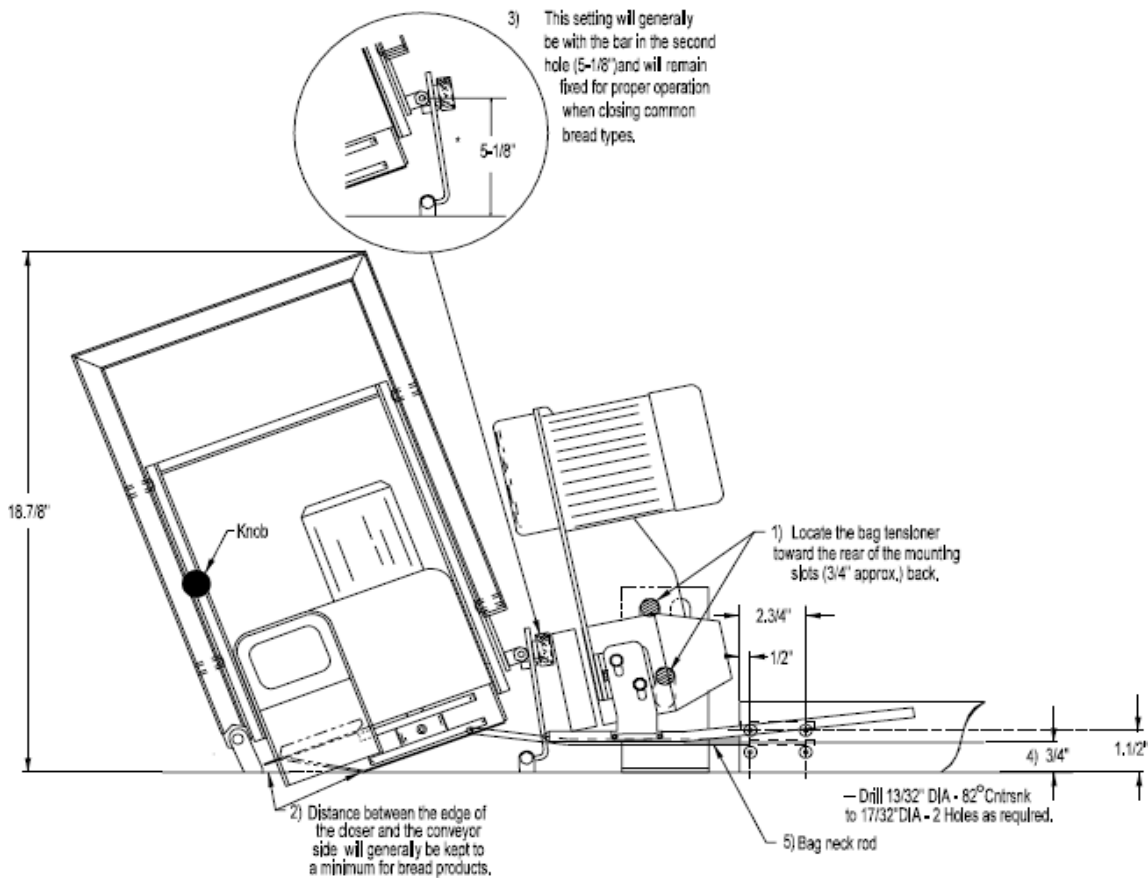

Figure 2.5
E. Setting for the Idle Rim Model (Figure 2.5)
1. The bag tensioner must be located toward the rear of the mounting slots as shown (1).
2. The distance between the closer frame and the conveyor is adjustable, but generally kept to a minimum. This is done by adjusting the closer mount, using the adjustment knob at the side of the closer frame (2).
4. Set the distance between the upper fence and the conveyor side at $\frac{3}{4}$ " (19mm), or in line with the lower fence rod (4).